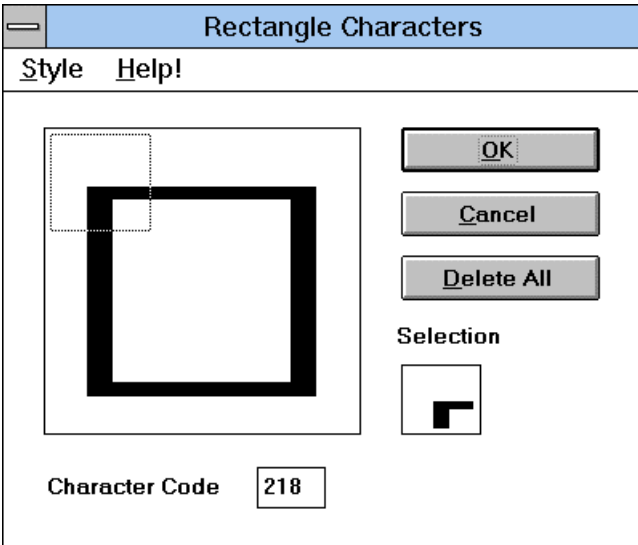

Figure 9-3
- **Box Drawing Characters** - By selecting *Rectangles* from the *Options* menu, the user is able to edit the characters that form each of the two rectangles that are implemented in the Designer software. Simply highlight the area on the rectangle you wish to change and double click on the character that you wish to replace it with. Figure 9-3 shows the dialog box that will appear when you select this option.